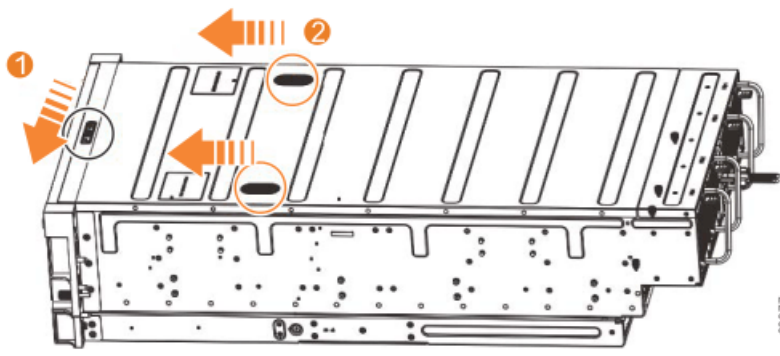

Figure 20. Releasing the Model 092 enclosure cover
1. Slide the release latch (1) in the direction that is shown in Figure 20 on page 44.
2. Slide the cover toward the front of the expansion enclosure (2), as shown in Figure 20 on page 44.